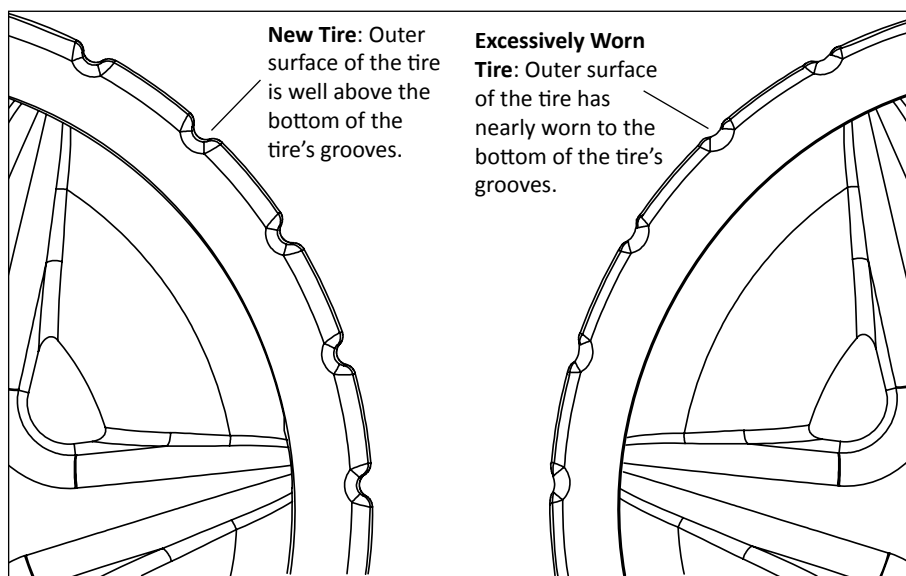

Figure 18: Tire Wear Comparison
- The tires are not excessively worn. See **Figure 18** on the next page.
After prolonged use it may become necessary to replace the BLUEREBEL™ Suction Side Pool Cleaner's rubber tires. When the tire surface has worn into the tire's grooves the tire is in need of replacement. See **Figure 18**.